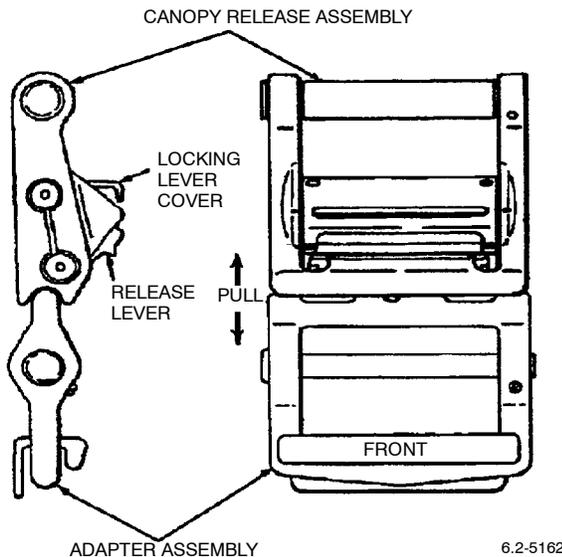

Figure 1. Canopy Release Assembly Inspection
(1) Engage canopy release adapter (with trapezoidal notch) with canopy release assembly (Figure 1).